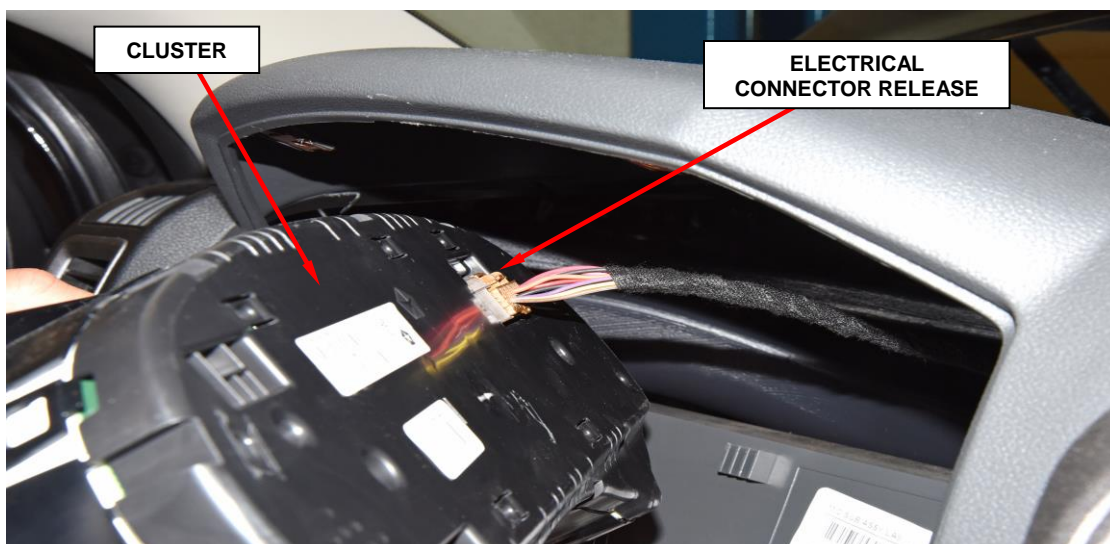

Figure 5 – Electrical Connector
7. Pull the instrument cluster away far enough to access and disconnect the instrument panel wire harness connector from the connector receptacles on the back of the cluster housing (Figure 5).
9. Position the **NEW** instrument cluster close enough to the instrument panel to connect the instrument panel wire harness connector to the connector receptacles on the back of the cluster housing (Figure 5).